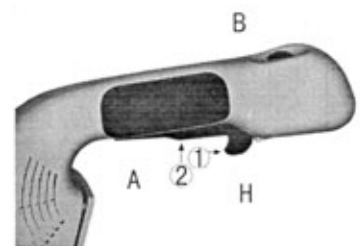

Figure 4
- c) Power Supply – Depress and release the Safety Trigger (A) to ensure that the power tool is turned off. Connect the plug to a power supply as indicated on the tool nameplate. Voltage and frequency differences from those listed on the nameplate will result in loss of power and overheating of the power tool.
- d) Pad Removal – Disconnect the power tool from power supply. Invert the power tool and allow to rest on handles. Pull out Pad Release Knob (D) and rotate Knob ¼ turn to lock open and remove the Pad.
10) INSTRUCTIONS FOR OPERATION (Figure 4)
- c) Locking Safety Trigger – The power tool is supplied with an activation Trigger (A) with a safety-lock off position. To operate the power tool, push the Locking Lever (H) forward and depress the Trigger (A) and the Pad will begin to Rotate. Releasing the Trigger turns the power tool off. The Trigger can be locked in the on position by pushing the Locking Lever (H) forward with the Trigger (A) in the fully retracted position. With the Locking Lever pushed forward, slowly release the Trigger. The power tool will continue to run. Depress the Trigger and release without pushing the Locking Lever to turn the power tool off.